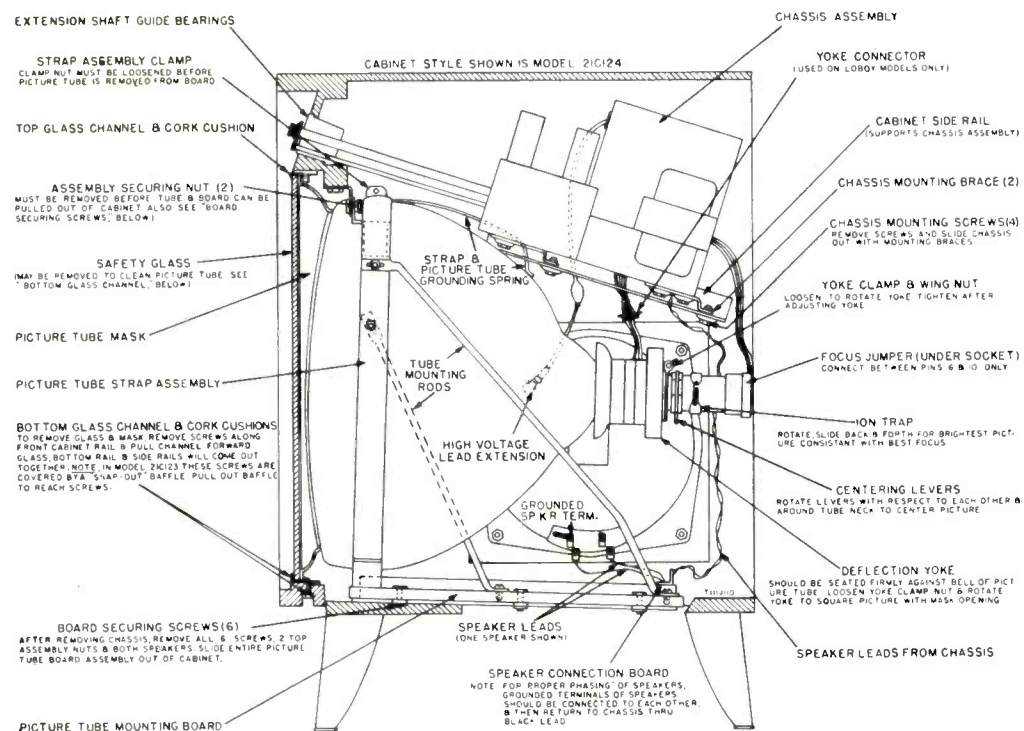
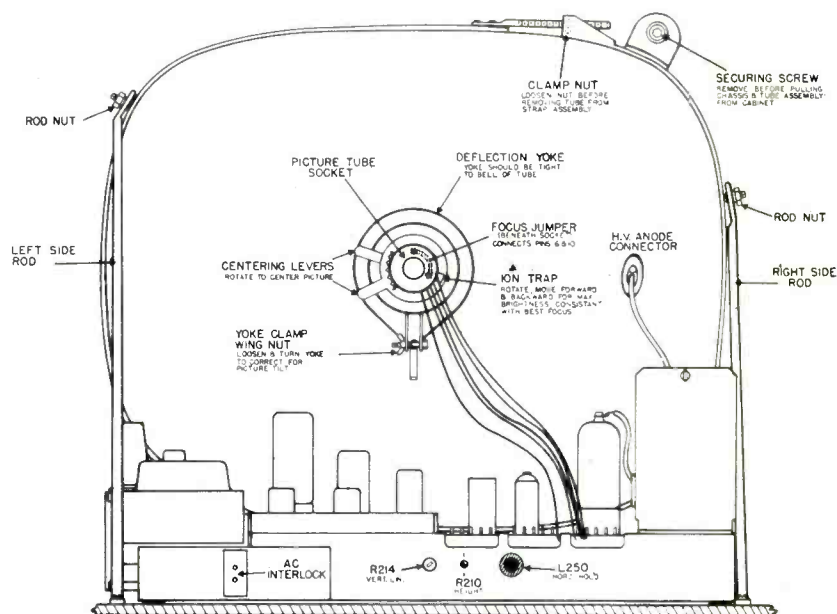

FIGURE 1. CUT-AWAY VIEW OF LOBOY MODELS
FIGURE 2. REAR VIEW, PICTURE TUBE AND CHASSIS BOARD ASSEMBLY
As shown in figure 1, the chassis of Models 21C123 and 21C124 is mounted above the picture tube. The chassis, in all other models in the "S" line, is mounted beneath the picture tube, as shown in Figure 2.
It is recommended that the receiver be permitted to operate for at least 15 minutes before the final raster adjustments are made. Refer to Figures 1 and 2.
These controls (R210 & R214), see Fig. 2, should be adjusted simultaneously to provide proper picture height consistent with good vertical linearity. The final adjustment should extend the picture approximately 1/8 inch beyond the mask limits.
If it becomes necessary to remove the picture tube, adhere to the following procedure. Refer to Figure 1.
When replacing tube, reverse above procedure. Be sure to "phase" speakers properly according to note in Figure 2, or according to label affixed to cabinet.
- Refer to Figure 2 during this procedure.
Fig. 2—Partial schematic of receiver using a single detector for the composite video I.F. signal. Separation of the various component signals is effected by employing selective circuits as shown in the above diagram.
In Fig. 2 we observe a simplified partial schematic of the RCA 21CT661-4 color TV receiver showing how the signal from the 3rd *if* is fed into the crystal 2nd detector. The demodulated output of this detector is then fed into a video amplifier tube where the process of extracting the various signals enumerated above are begun.